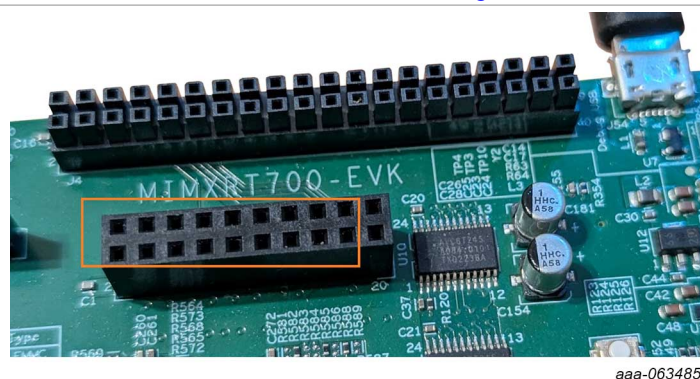

Figure 4. Connector J53 on the MIMXRT700-EVK board
1. Plug in the OV7670 camera into connector **J53** as shown in Figure 4.